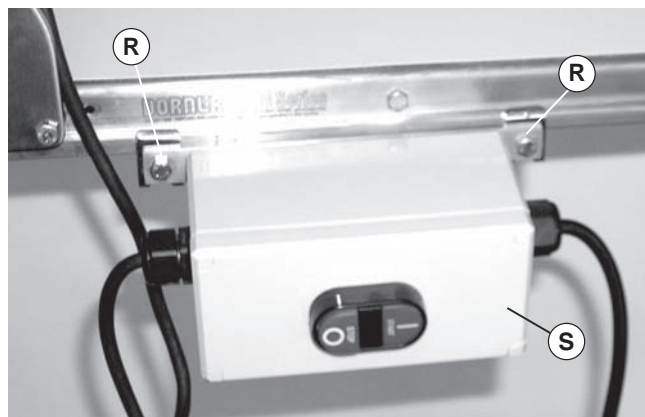

Figure 17
- Attach motor starter (Figure 17, item S) with clips to conveyor. Tighten screws (R) to 92 in-lb (10.4 Nm).